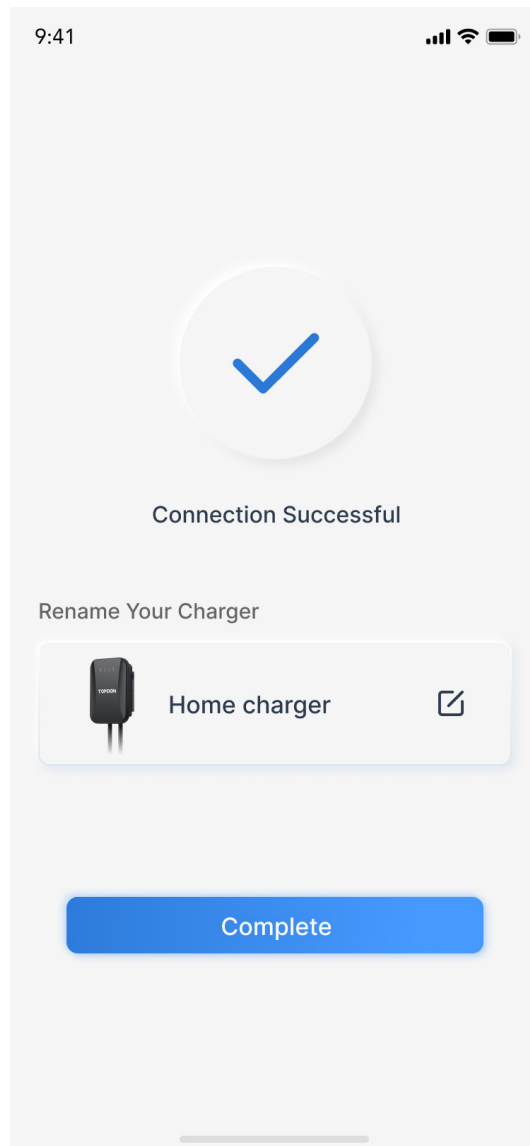

Fig.6.1.11
11. After successful connection, you can rename your charging station.(See Figure 6.1.11)